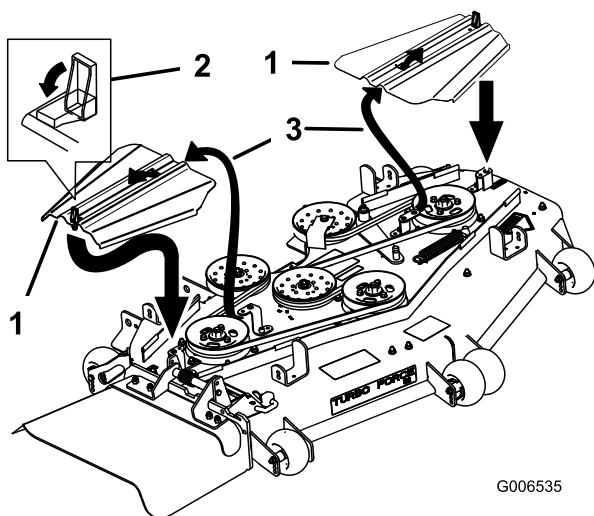

Figure 65
- Install the belt covers by sliding the cover into the tab, install the bolts, and close the latches (Figure 65).